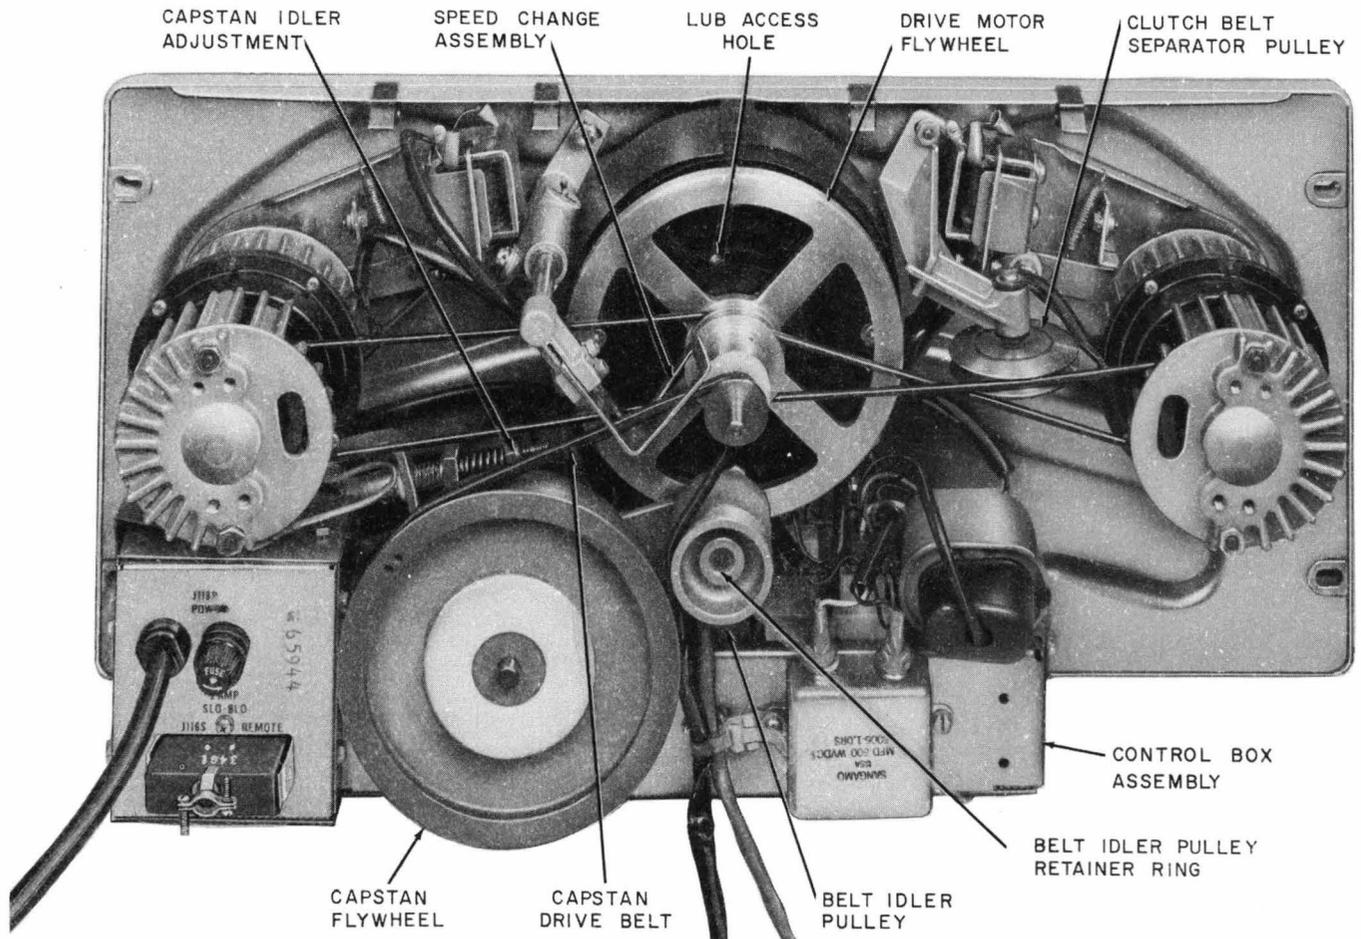

Fig. 5 — KS-19124 L2 Record-Reproduce Mechanism — Rear View — Screen and Fan Removed
(e) Pulley surfaces on drive motor flywheel and capstan flywheel (Fig. 5) should be cleaned after 500 hours running time to remove oil and grease film.
\* (4) Clutch belt separator pulley (Fig. 5) — One drop
(5) Belt idler pulley (Fig. 5) — One drop.
(e) Speed change assembly (Fig. 5) requires lubrication only if the shaft appears to bind. Lubricate each end of the shaft with KS-19094 L1 antiseize compound.
(1) With power switch turned to OFF, remove capstan drive belt (Fig. 5) from motor so that capstan will not rotate when power is applied.
The speed change assembly (Fig. 5) shall operate smoothly as it mechanically positions capstan drive belt so that record-reproduce mechanism operates at high speed when speed selector is pulled to OUT and at low speed when speed selector is pushed to IN. Gauge by eye.